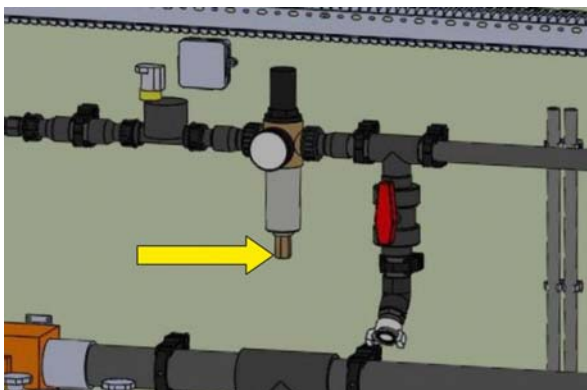

Figure 7-13: Valve below water filter
- b) Open the valve below the water filter to release the residual pressure (see figure 7-13).